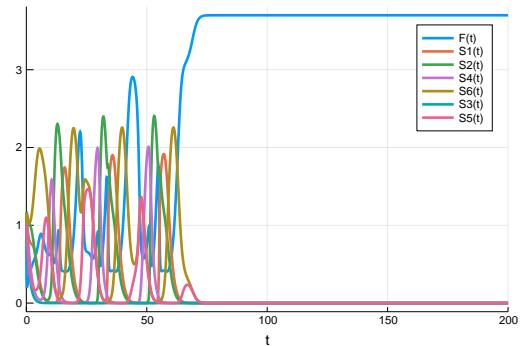

Figure 5: **Hypercycle for 6 species.** For $k_f < 3.8$ the dilution rate of the system is too high and the 6 replicators are washed out of the system.
12. Change the feeding rate k_f to $k_f = 3.7$ (Do you have an idea why the oscillation stops and the replicators die out see Figure 5?).